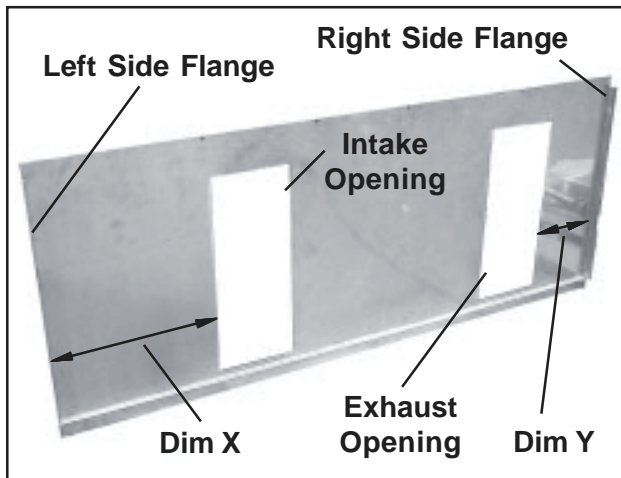

Figure 6. Typical Inner Panel
1. Locate the inner panel (not yet installed) (Figure 6).
2. On the inner panel, measure the two dimensions shown in Figure 6:
5. Adjust the blower boxes so the filter openings neatly align with the openings in the inner panel, and tighten the blower box mounting screws (Figure 6).